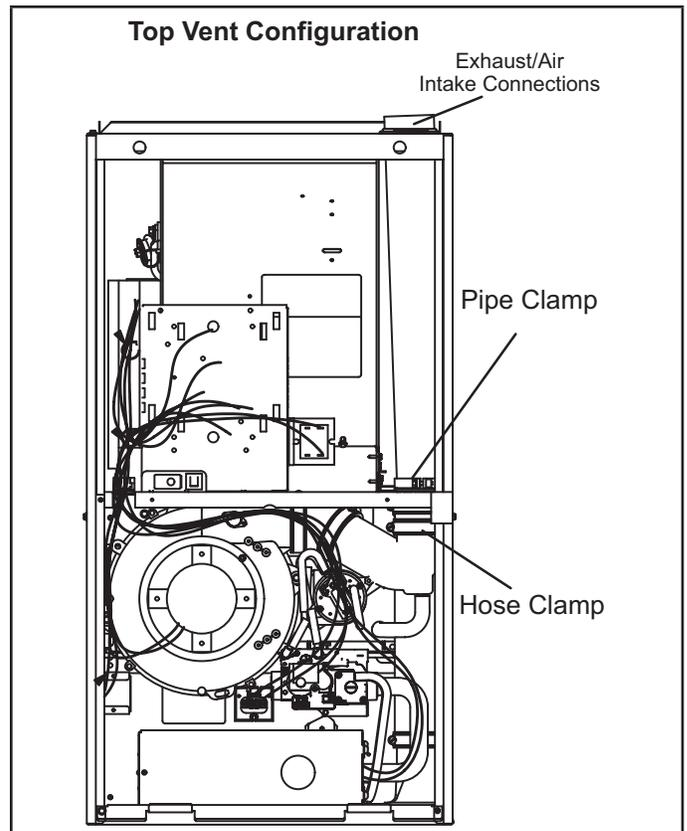
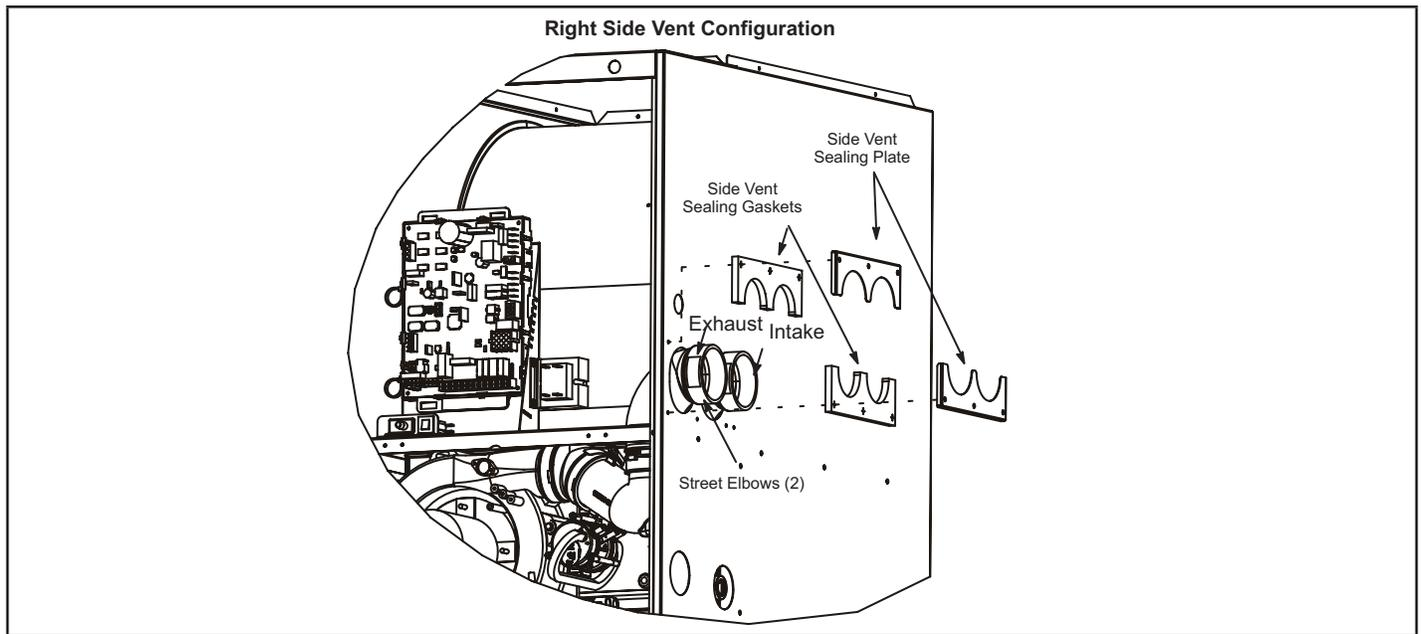

FIGURE 18
FIGURE 20
The EL297DFV is shipped with vent exhaust / air intake connection at the top cap. See FIGURE 18. Using parts provided, the furnace may be field modified to have these connections on the right side of the furnace cabinet. See FIGURE 20 and follow the steps below. For left side venting order kit 87W73.
- 2 - Loosen hose clamps which attach rubber fittings to the white PVC pipes inside the vestibule area. See FIGURE 18.
- 3 - Loosen the clamp which secures the pipes at the blower deck. See FIGURE 18.
- 11 - Peel protective backing from side vent sealing gaskets (2) and apply to side vent sealing plates (2) as shown in FIGURE 20.
- 12 - Install the side vent sealing plates and gaskets on the exterior of the cabinet as shown in FIGURE 20. Secure with six mounting screws (four reused and two provided from bag assembly). Holes are pre-punched in the parts and cabinet, no drilling is required.